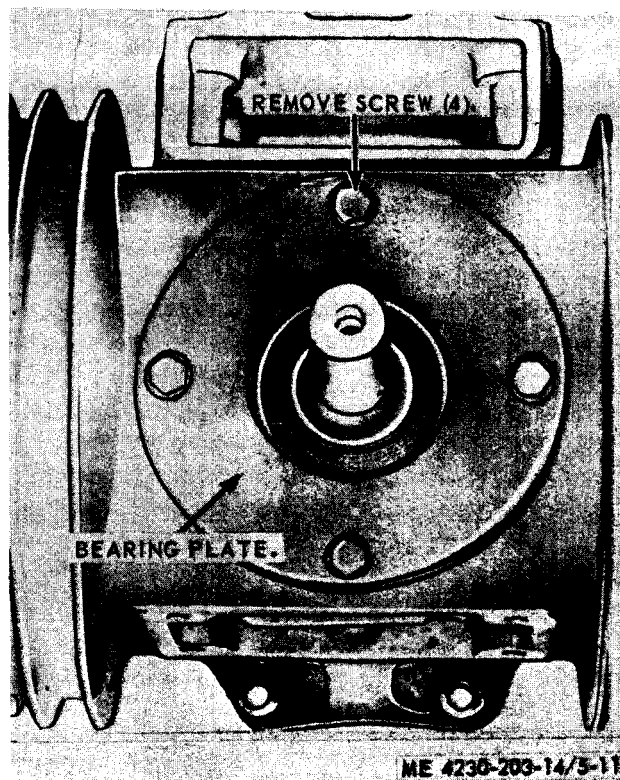

Figure 5-11. Bearing plate removal and installation.
- (1) Remove the coupling (para 4-40).
- (2) Remove the compressor pistons and bearing caps (para 5-8).
- (3) Remove the bearing plate (fig. 5-11).